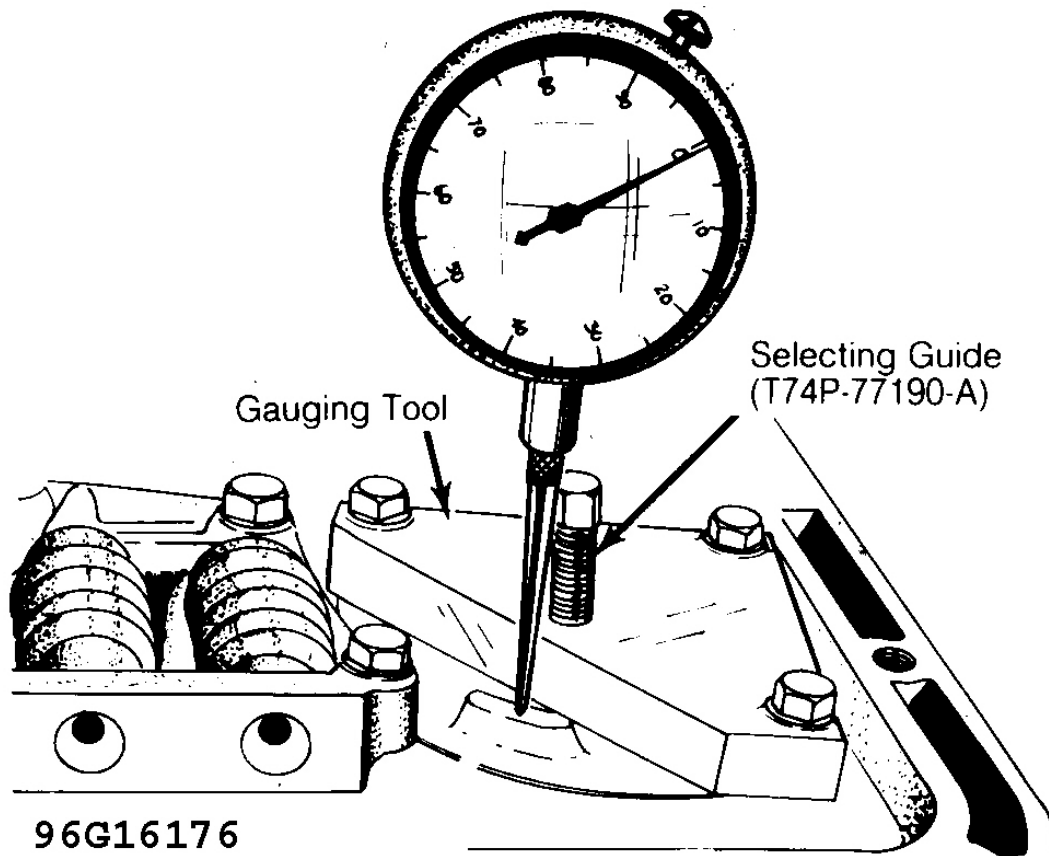

Fig. 45: Tool Set-Up for Rear Servo Pin Selection
22. Tighten servo tool adjusting screw to 36 INCH lbs. (4 N.m). Install dial indicator on case. Position indicator tip on one of 3 servo piston pads accessible through cut-out of tool. Zero dial indicator. See **Fig. 45**.